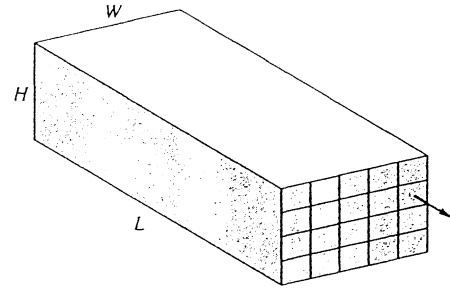

Fig. P6.98
**6.98** A rectangular heat exchanger is to be divided into smaller sections using sheets of commercial steel 0.4 mm thick, as sketched in Fig. P6.98. The flow rate is 20 kg/s of water at 20°C. Basic dimensions are  $L = 1$  m,  $W = 20$  cm, and  $H = 10$  cm. What is the proper number of *square* sections if the overall pressure drop is to be no more than 1600 Pa?